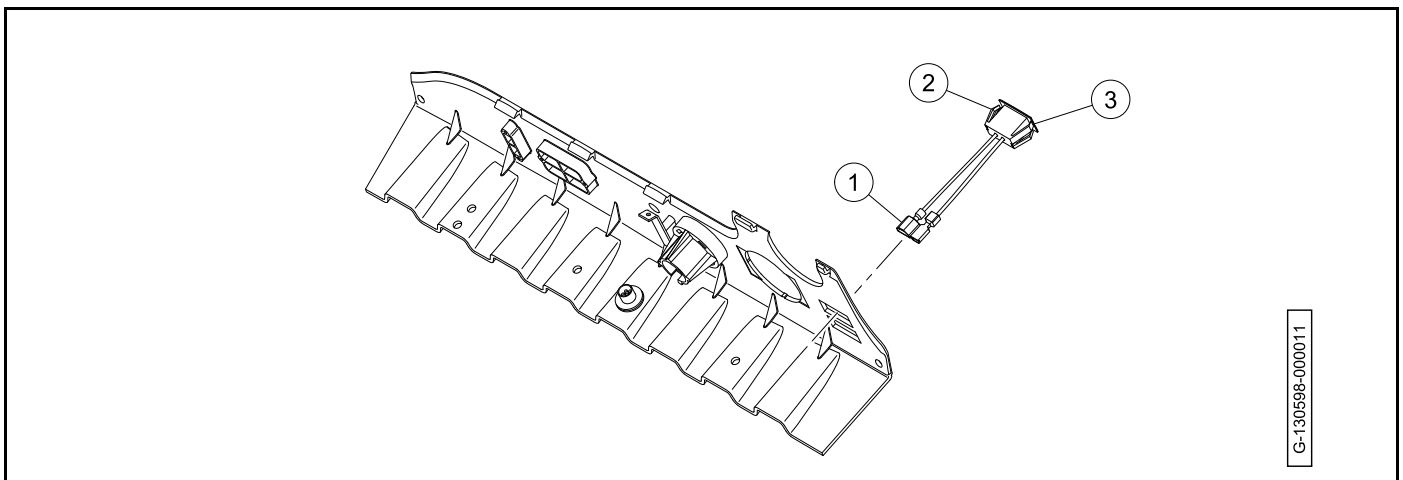

Figure 20-37 Low Oil Warning Light
3. Disconnect the wires (1) (**Figure 20-37, Page 20-33**).
4. Push the retaining tabs (2) and remove the low oil warning light (3).
1. Push the low oil warning light (1) into the hole in instrument panel until retaining tabs engage (**Figure 20-37, Page 20-33**).